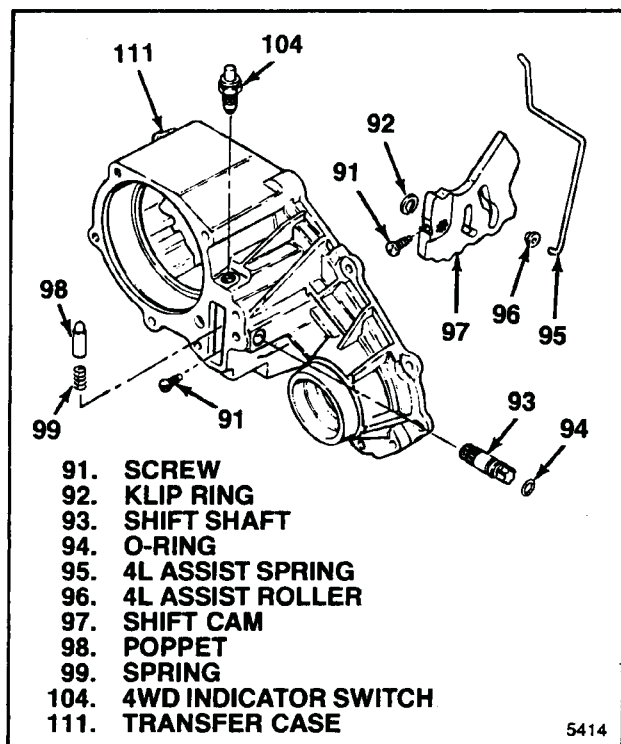

Figure 5-7. Mechanical Shift Cam Parts
**5-7. ASSEMBLY OF SHIFT CAM PARTS (MECHANICAL SHIFT TRANSFER CASE ONLY).** On mechanical shift units, install parts as follows (see figure 5-7):
a. Lubricate o-ring (94) and install on shift shaft (93). Start splined end of shift shaft into transfer case (111) until end is flush with inside of case. Position flats on outside end of shaft as shown in figure 5-7.
b. Apply petrolatum to spring (99) and poppet (98) and position these parts in hole in transfer case (111). Using care not to unseat poppet, insert shift cam (97) into transfer case in position shown in figure 5-7, with flat end of cam approximately parallel with front face of case. Pressing cam against poppet and compressing spring, align splines in cam and on shaft (93) and press shaft fully into cam.
c. Install klip ring (92) in groove near inside end of shift shaft (93).
d. Install two screws (91), one in end of shift cam (97) and one in transfer case. Torque screws to 4-7 lb-ft (6.8-9.5 Nm). Make sure that shift shaft (93) is fully engaged so that second screw end enters groove in shaft.
g. Install assist roller (96) on end of assist spring (95) and install in groove in shift cam (97) closest to shift shaft (93). Install other end of spring in hole in transfer case (111).
h. Install 4WD indicator switch (104) and torque to 25-35 lb-ft (34-47 Nm)